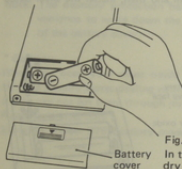

Fig. 1
2. Remove the battery cover by sliding it in the direction of the arrow on the cover. (Fig. 1)
3. Replace the battery. Be sure that the "+" and "-" mark on the battery correspond to the "+" and "-" mark in the case. (Fig.1)